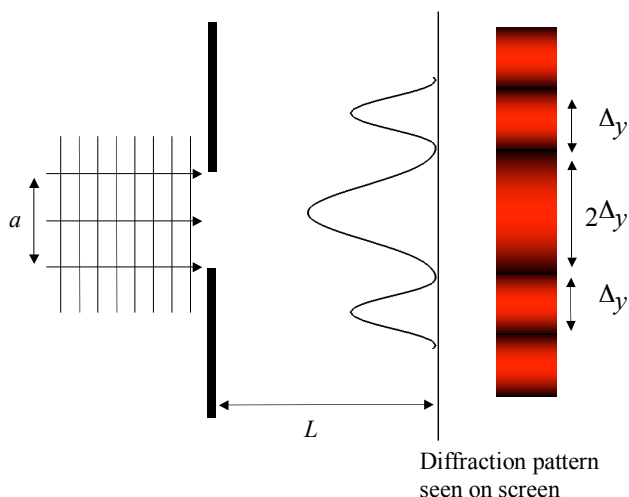

Figure 8 Single-slit diffraction pattern
0.2 Diffraction pattern from a single-slit: Consider a beam of light incident on a barrier consisting of a single slit of width a . If the light passing through the slit is made to fall on a screen a distance L away from the slit, one observes a diffraction pattern of alternating dark and bright fringes on the screen (Figure 8).
except for the dark fringes on either side of the central maximum which are a distance $2\Delta y$ apart (refer to Figure 8). Notice the central maximum in a single-slit diffraction pattern has a width $2\Delta y$.
4.4 Determine the average spacing Δy between the dark fringes. Recall that in a single-slit diffraction pattern the width of the central maximum is **twice the width of the other maxima**. You must take this into account when calculating Δy . Refer to Figure 8.